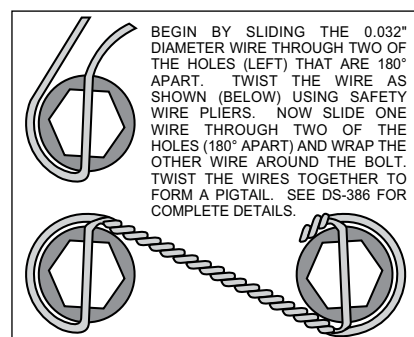

Figure 5. Safety Wire Diagram
- With the larger I.D. side of the rotor (4) facing away from the hat (3), bolt rotor (4) to hat (3) through the backside of the rotor using washers (5) and bolts (6). Apply red *Loctite*® 271 to the bolt threads and torque to 155 **in-lb** using a criss-cross pattern. For an added measure of security, the bolts may be safety wired using standard 0.032 inch diameter stainless steel safety wire as shown in Figure 5. Please refer to Wilwood's data sheet DS-386 (available at [www.wilwood.com/Pdf/DataSheets/ds386.pdf](http://www.wilwood.com/Pdf/DataSheets/ds386.pdf)) for complete safety wire installation instructions.
- Slide the rotor registration adapter (18) onto the axle register on the axle flange with the smaller O.D. facing toward the rotor/hat (3). Align the correct hole pattern in the hat with the stud pattern on the axle flange. **NOTE:** Some OEM and aftermarket axles come with stud sizes larger than 0.50" diameter. Verify stud size and have a qualified machine shop drill the hats to the correct size, if necessary. Slide the hat/rotor assembly (3 and 4) over the wheel studs covering the bracket kit assembly (1) and against the axle flange face. Check to be sure the hat seats squarely against the hub. Install a couple of lug nuts (finger tighten) to keep the rotor/hat assembly in place while continuing with the installation.